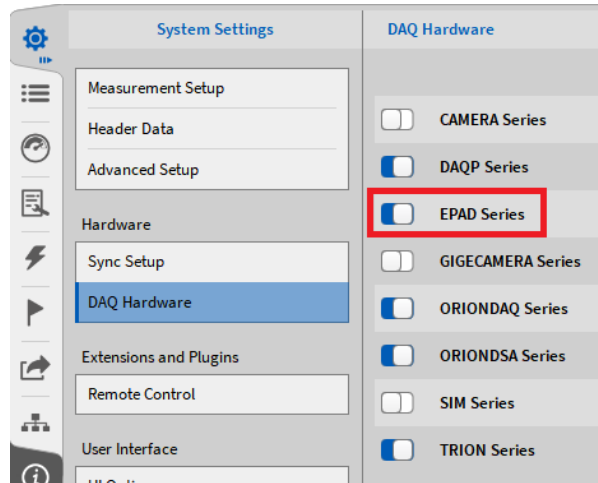

Figure 2-15: Enabling the EPAD Series in the DAQ Hardware setup
- Select the *DAQ Hardware* section and ensure the slider button next to the EPAD Series is activated (see Figure 2-15) (Changes take effect on application restart)